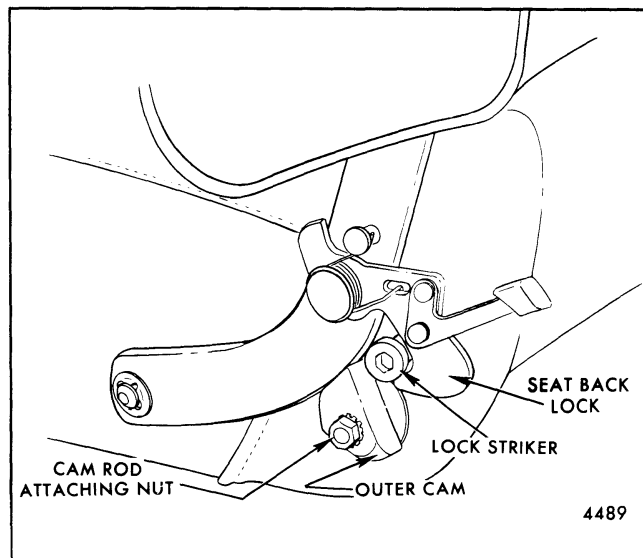

Fig. 9-51-Adjustable Drivers Seat Back - Inner Side - Chevrolet "F" Styles
1. At inner side of seat remove handle screws (see Figs. 9-51 and 9-53) and remove handle.
- Remove screw securing inner detent plate and remove detent plate (see Figs. 9-51 and 9-53).